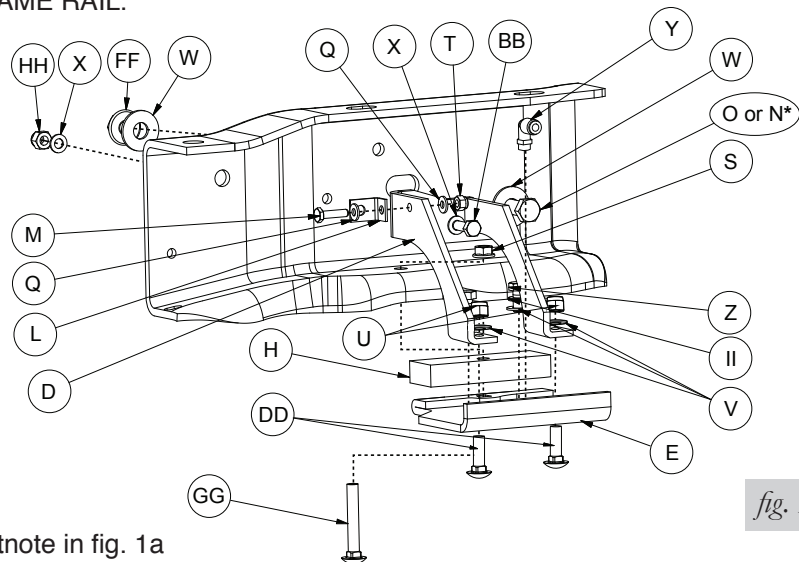

fig. 5
- Attach the L-bracket (L) to the back frame brace using the 1/4" bolt (M), flat washers (Q) and nyloc nut (T) supplied (fig. 5). This L-bracket will eventually be used to attach the previously removed emissions line. Do not attach the line holder to it at this time.
1. Set the left upper brace (D) into the driver side frame rail. The brace has a small hole that will line up with an existing hole in the frame, insert the 8mm hex cap screw (BB) with a flat washer (X) through the brace and frame (fig. 5) and cap with flat washer (X) and M8 Nyloc nut (HH). Leave loose at this time.
- If you have no fifth wheel hitch or if you have the **standard equipment Reese fifth wheel hitch** that was purchased on the truck from Ford, in the frame there is a slot that is forward of the M8 bolt just installed, insert the 1/2"-13 x 1.25" hex cap screw (O) and flat washer (W) through the brace and frame (from the inside out). Cap with a flat washer (W) and a 1/2" serrated flanged lock nut (FF) (fig. 5 and 6). Do not tighten at this time.
If you have an aftermarket fifth wheel hitch that has a bracket (plate) running along side of the frame and it used this slot to secure the bracket to the frame with existing hardware, install the existing hardware previously removed in the "getting started section" from the fifth wheel installation for securing the brace (fig. 5). Do not tighten at this time.
Insert a 1/2"-13 x 3.00" hex cap screw (N) with a flat washer (W) through the brace, frame and fifth wheel plate previously drilled. Cap with a flat washer (W) and a 1/2"-13 serrated flange lock nut (FF) (fig. 5). Leave loose at this time.